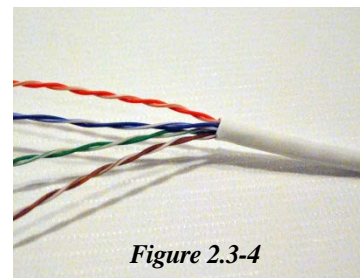

Figure 2.3-4
3. Trim the torn cover off being very careful not to nick any of the wires as shown in Figure 2.3-4